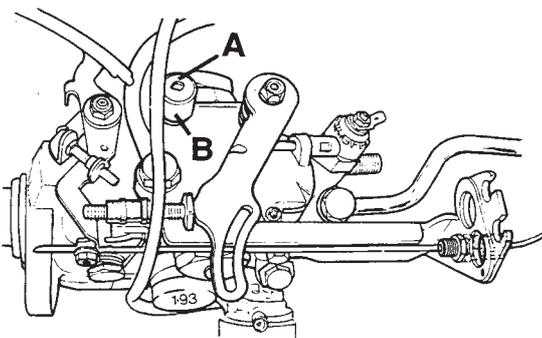

Fig.8 Fuel injection pump
13. **CAUTION:** In the following operation do not allow the connector 'B' (fig.8) to turn, as this will affect timing. Securely grip the connector 'B' on the top of the pump so that it cannot turn, then undo the threaded plug 'A' in the top to gain access to the timing hole.